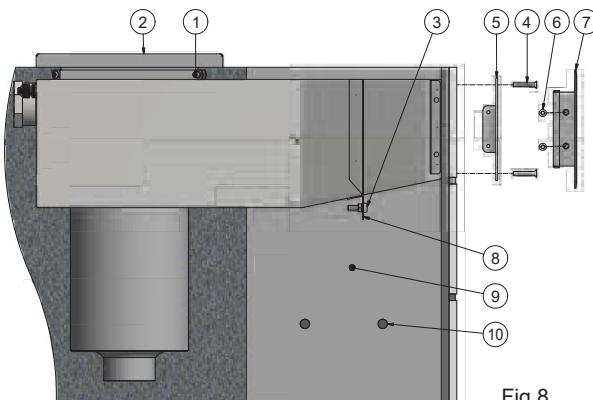

Fig 8.
4. Connect the cable (at least 6 mm²) with a ring from the intake flange to earth (see item 3 Figure 8). Screw, toothed washer and nut are supplied with the product. If other components are used, it must be ensured that they are of stainless steel quality (Min. A4).
9. Assemble the frame and secure it with screws (4x M5x30), see Fig. 8.